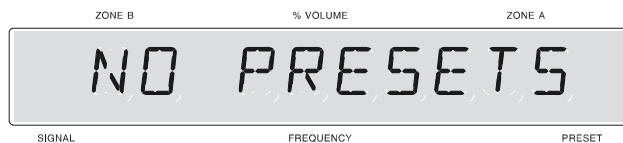

Figure 32
*Note: If no AM presets have been assigned, when a PRESET UP or Down pushbutton is pressed, the front panel display will indicate NO PRESETS. Refer to figure 32.*